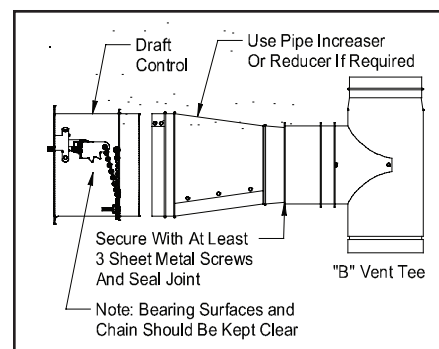

Figure 7
1. Install a vent pipe reducer or increaser, if needed, into the tee and fasten using sheet metal screws. (See Figure 7)